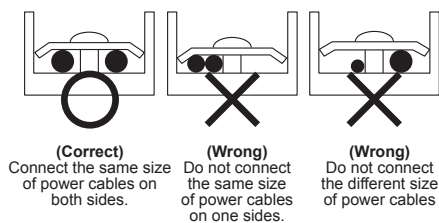

Figure 12
- The power cables must same size (Figure 12)